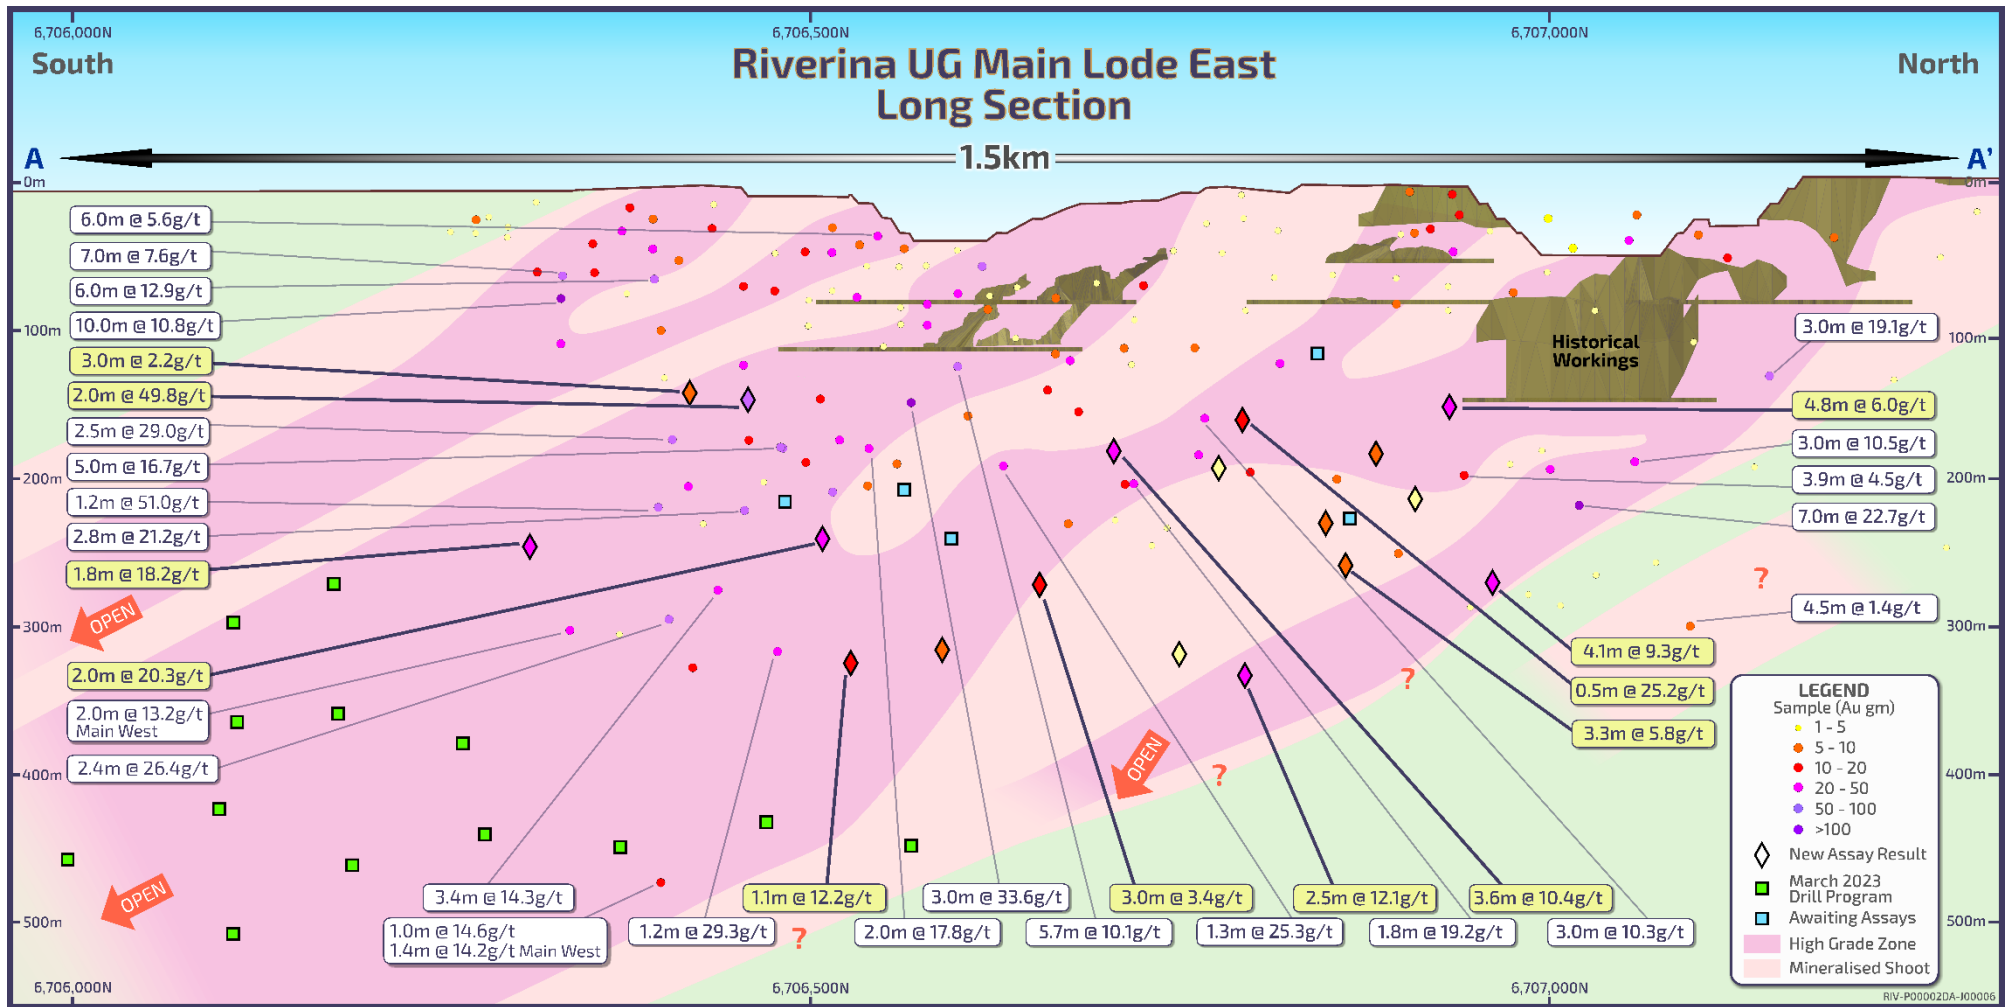

Figure 1 - Long Section of Main Lode East
- New significant intercepts (see Figure 1) include: